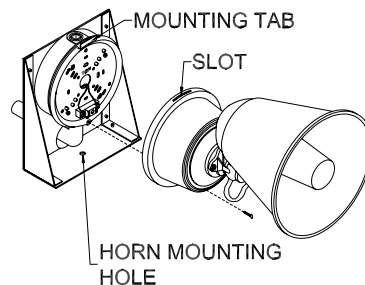

Figure 14 Horn Assembly and Mounting
17. Fasten the horn assembly to the scoreboard using the mounting bolts from the scoreboard as seen in figure 14.